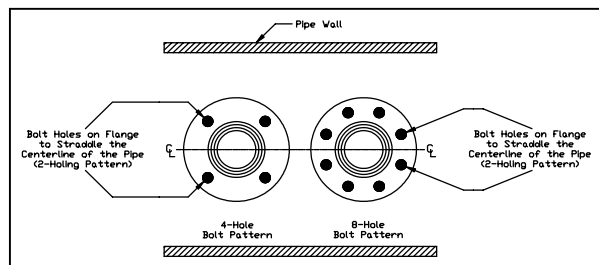

Figure 5. Flange Orientation
- Note the flange orientation per Figure 5. The bolt holes on the flange should straddle the centerline of the pipe (2-holing pattern).